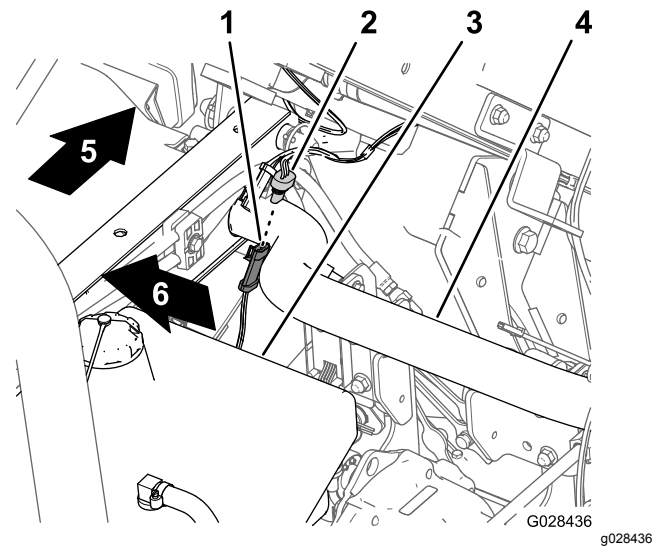

**Figure 16**
- At the transaxle of the machine, connect the 3-pin connector of the wire harness of the machine for speed sensor into the 3-socket connector of the sprayer harness for the speed sensor (Figure 16).